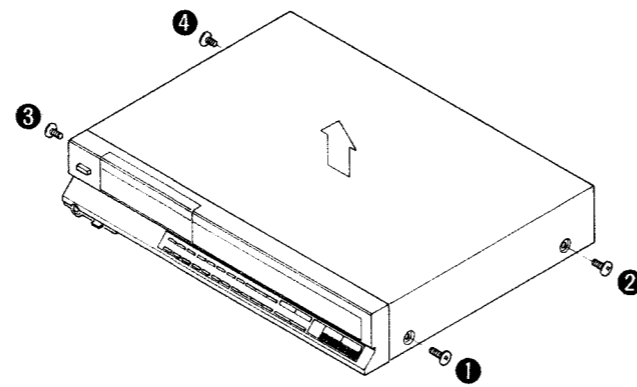

Fig. 1
1. Remove the 4 setscrews [Fig. 1 : ① ~ ④] of the cabinet.
2. Remove the cabinet in the direction of the arrow as in Fig. 1.